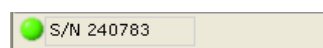

Fig. 6
3. When the unit is connected to the TEMPSoft™, the software shows the S/N and a green led on the left bottom (Fig. 6).